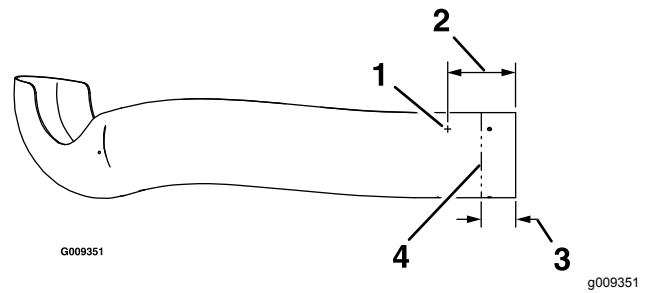

Figure 49
end of the tube and mark the location in all 3 areas (Figure 49).
B. Drill 3 holes (4.8 mm or 3/16 inch) as shown in Figure 49.
C. Measure at 3 locations—76 to 89 mm (3 to 3-1/2 inches) from the end of the tube, create the marks, and apply masking tape around the tube as a guide (Figure 49).